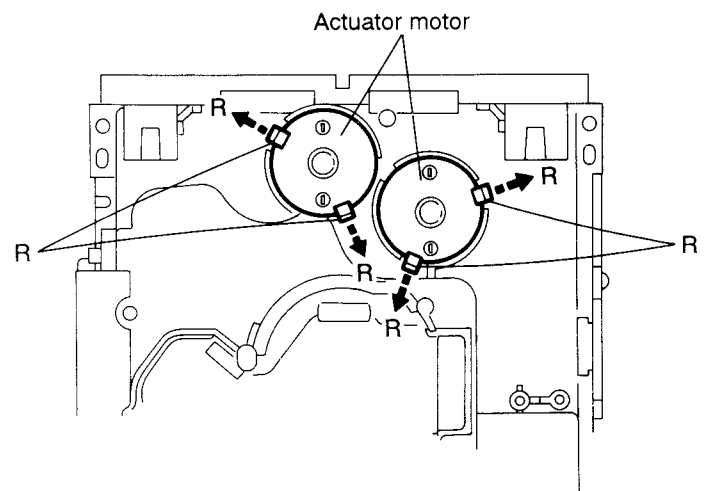

Fig. 5-35
4. Remove the belts respectively from the right and left actuator motor pulleys and pulley gears (See Fig. 5-35).
5. After turning over the chassis assembly, remove the actuator motor while spreading the four pawls (R) fixing the right and left actuator motors in the arrow direction (See Fig. 5-35).